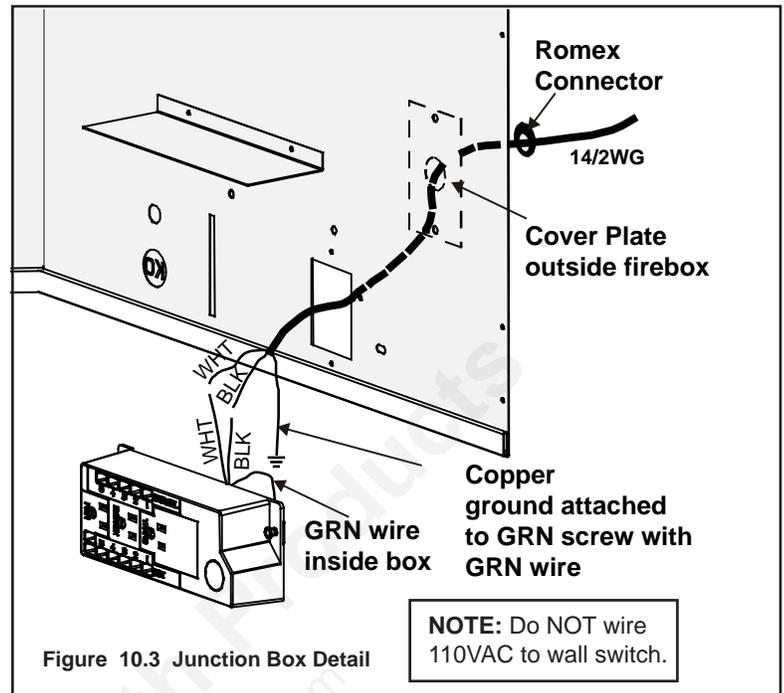

Figure 10.3 Junction Box Detail
This appliance requires a 110 VAC supply to the appliance junction box for operation. A wiring diagram is shown in Figure 10.3.
- Remove the cover plate located on the outer shell - right side (see Figure 10.3).
- Remove the screw attaching the junction box/receptacle to the outer shell, rotate the junction box inward to disengage it from the outer shell (see Figure 10.3).